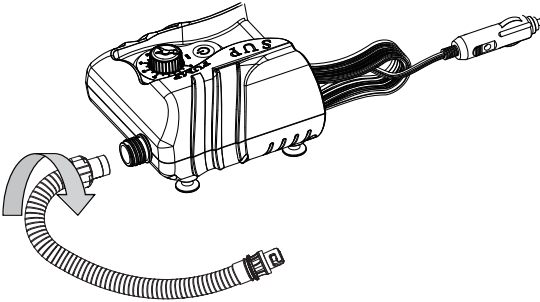

Figure 1
- Connect the flexible adapter (6) of the hose to the air inlet (1) of the air pump and turn it clockwise to tighten, as shown in Figure 1.